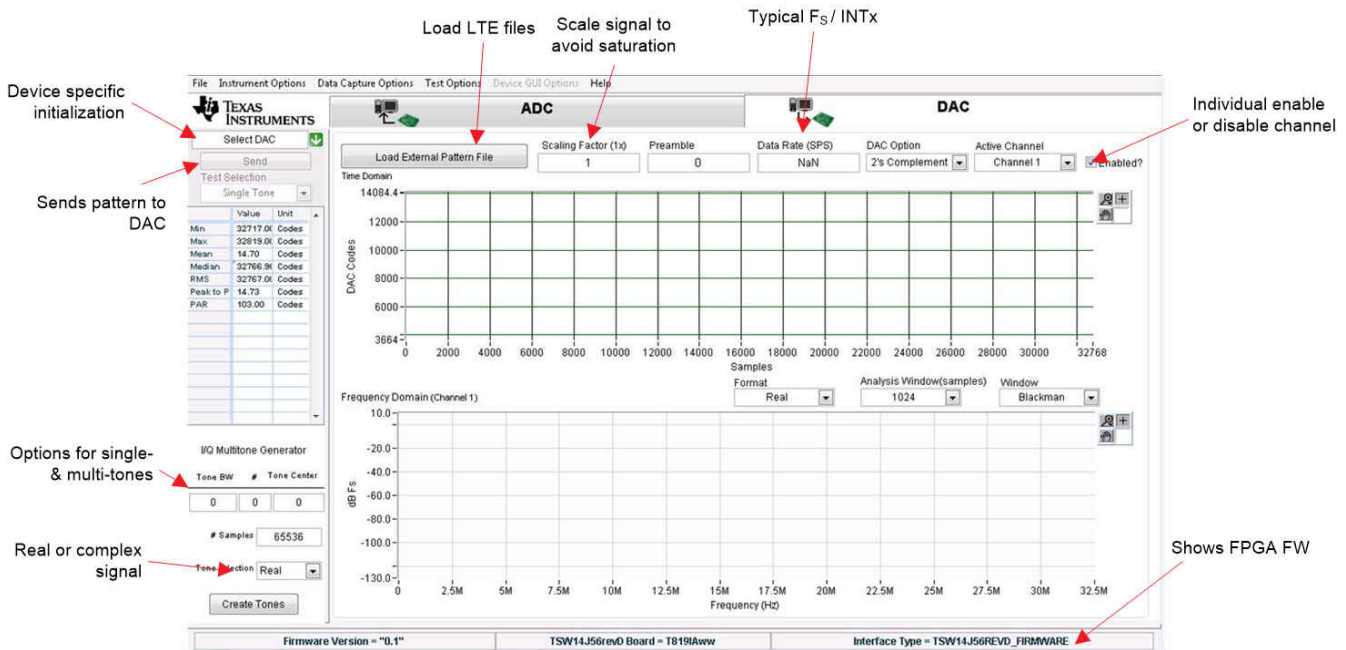

Figure 7-1. HSDC Pro DAC Tab Overview
1. Click on the HSDC Pro DAC tab. Figure 7-1 shows a brief description of the DAC tab.